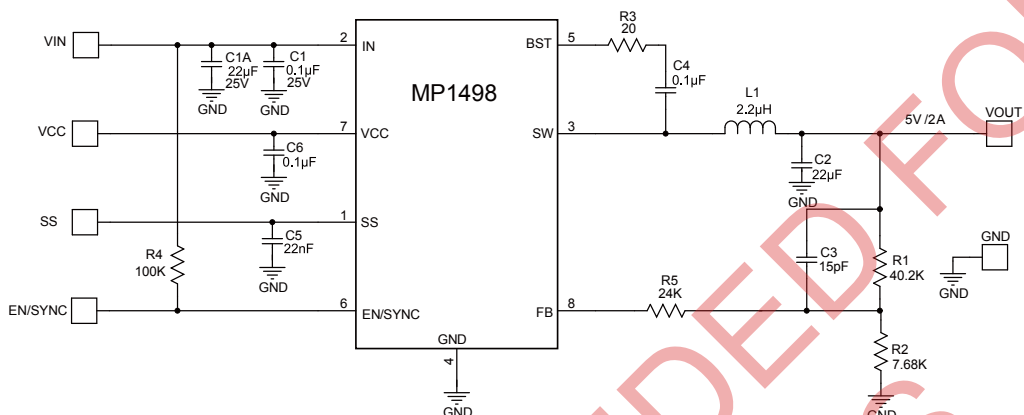

Figure 7: $V_{IN}=12V$, 5V/2A Output
- 8) The recommended layout is based on the Figure 7 Typical Application circuit on the next page.